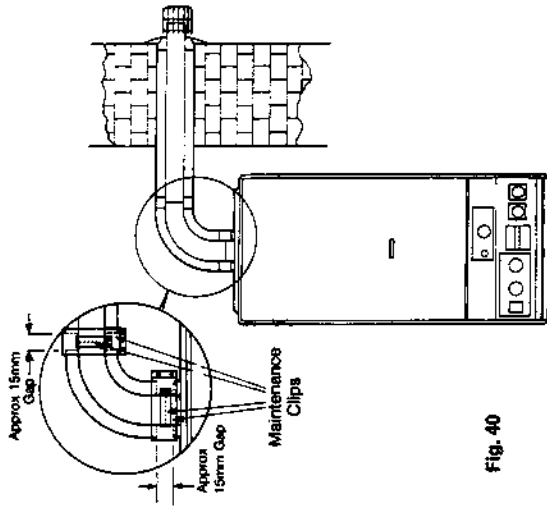

Fig. 40
- 8.19.5 Remove screws on large maintenance clips (fig 40) and remove clips, loosen screws on the small clips and remove flue elbow.